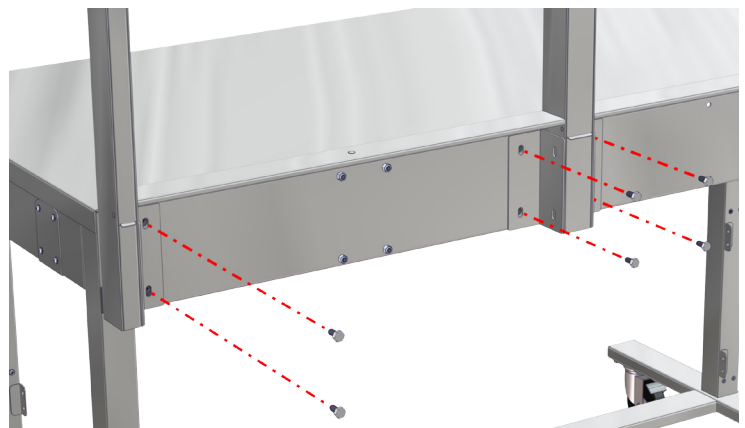

Fig. 4: Close-up of bolt re-insertion
4. Re-insert the bolts through the back bracket mounting plate holes (2 bolts at each end and 4 bolts in the center) and tighten (Fig. 3 - Fig. 4).